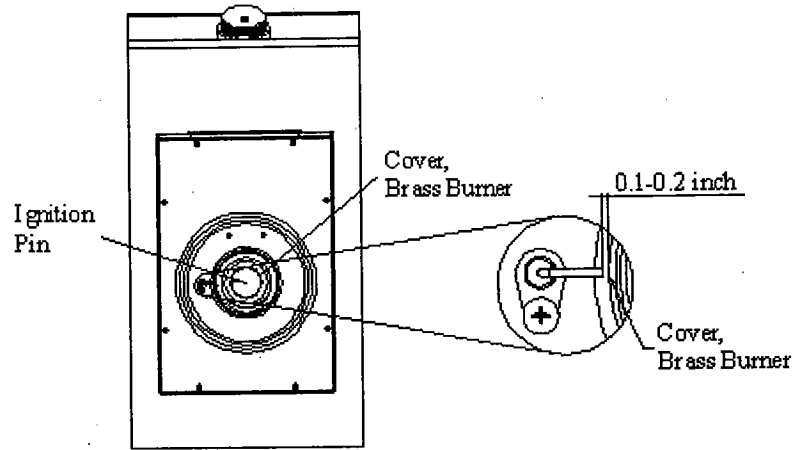

Fig. 30
- d. Check the distance between the ignition pin tip and the burner. The distance should be 0.1-0.2 inch. If the distance does not fall within this measurement, loosen the ignition pin screws, adjust the distance, and then tighten the screws. (See Fig. 30)